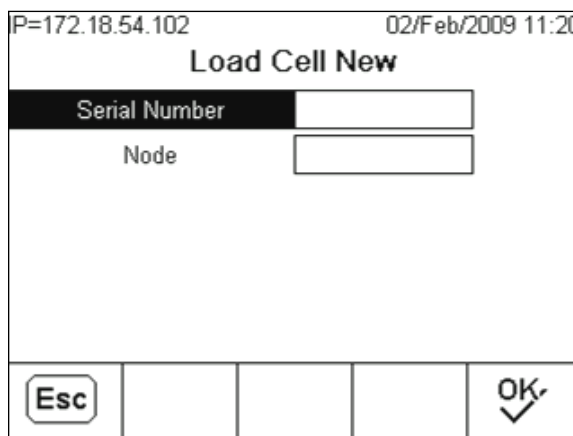

Figure 3-18: Manual Address Load Cell New Screen, PDX
- To address a newly added cell into the network, simply press the NEW softkey  from the Load Cells View Screen. Enter the cell's serial number and the required node address into the entry boxes shown in the Load Cell New screen (Figure 3-18) then press the OK softkey to complete the new cell addressing.